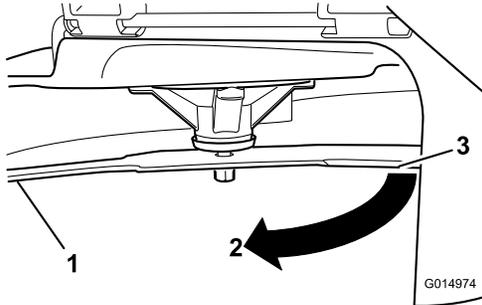

**Figure 58**
5. Measure from the tip of the blade to the flat surface (Figure 58).